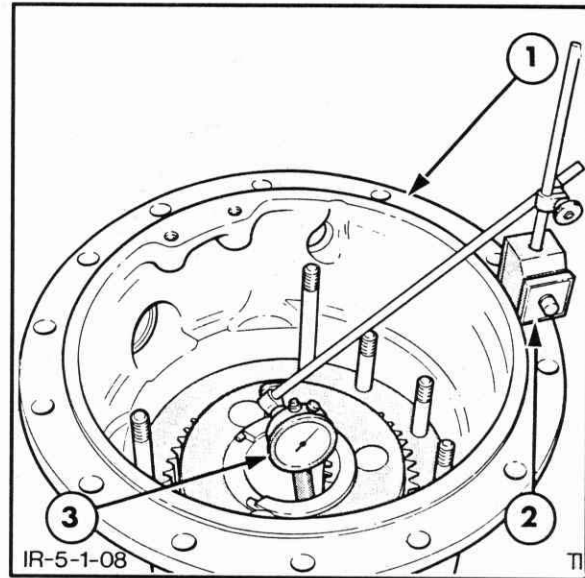

Figure 5-8
- b. Set up a dial indicator, as shown in Figure 5-8. It will be necessary to use an extended plunger on the dial indicator to enable a reading to be taken from the top of the axle shaft bolt.